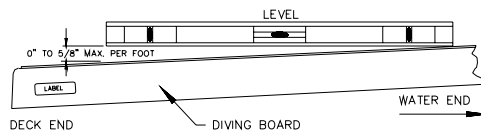

FIG.4
10. The top surface of the diving board, from the deck end to the tip end shall be level or have an upward slope of 5/8" per foot (16 mm : 305mm) maximum. Elevation difference shall not exceed 6 inches (152mm) from the deck end to the tip of the board. There shall be no downward slope towards the water. The slope shall be measured using a level as shown in Fig. 4.